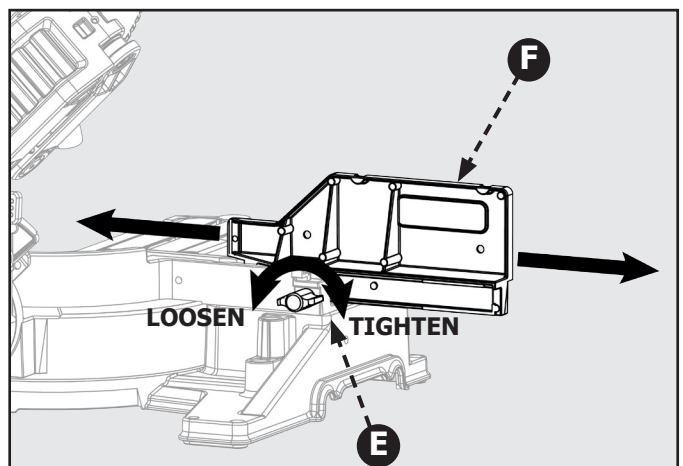

Figure 33
This saw is equipped with an adjustable extension fence. To extend or retract the fence refer to Figure 33 and follow these instructions: Loosen the lock knob (E) by rotating counterclockwise and then slide the fence (F) into the desired position. Make sure to re-tighten lock knob (E) by rotating clockwise.